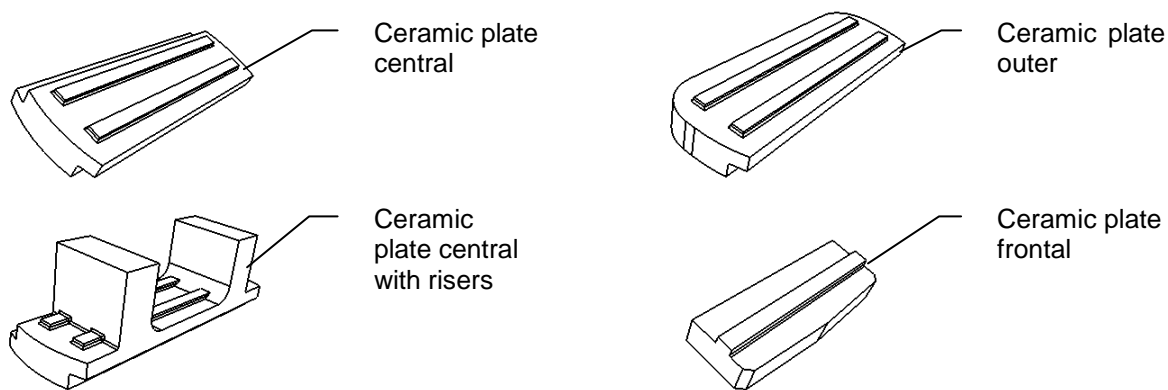

Fig. no. 11 Ceramic plate shape for VIADRUS HERCULES ECO 10
3. Through the stoking door mount the ceramic plates into the combustion chamber on the side risers of the sections (see Fig.13 a 14). For boiler there exist 4 types of ceramic plates (see tab. 3 a Fig. no. 11). Mount the ceramic plates according to Fig. no. 13 and 14.